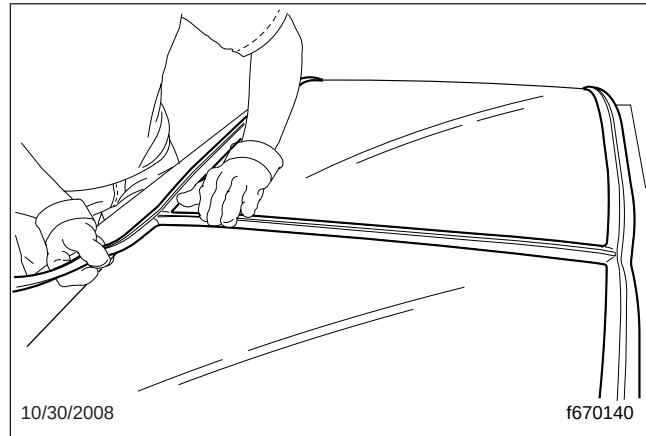

Fig. 4, Installing Glass in Seal
11. Install the left- and right-side glass in the new seal. Start by pushing the inboard edge of the glass into the centerpost channel, then work the seal over the edge of the glass; see **Fig. 4**. Make sure that both glass panes are seated in the centerpost channels.